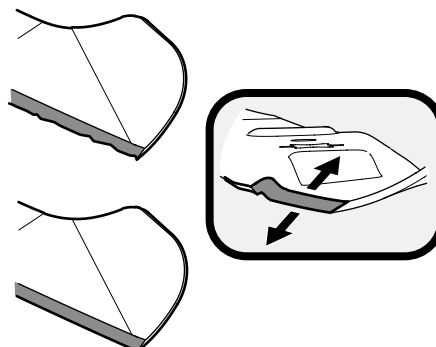

Figure 4-7
- To properly sharpen the cutting blades, remove equal amounts of metal from both ends of the blades along the cutting edges, parallel to the trailing edge, at a 25° to 30° angle. Always grind each cutting blade edge equally to maintain proper blade balance. See Figure 4-7.